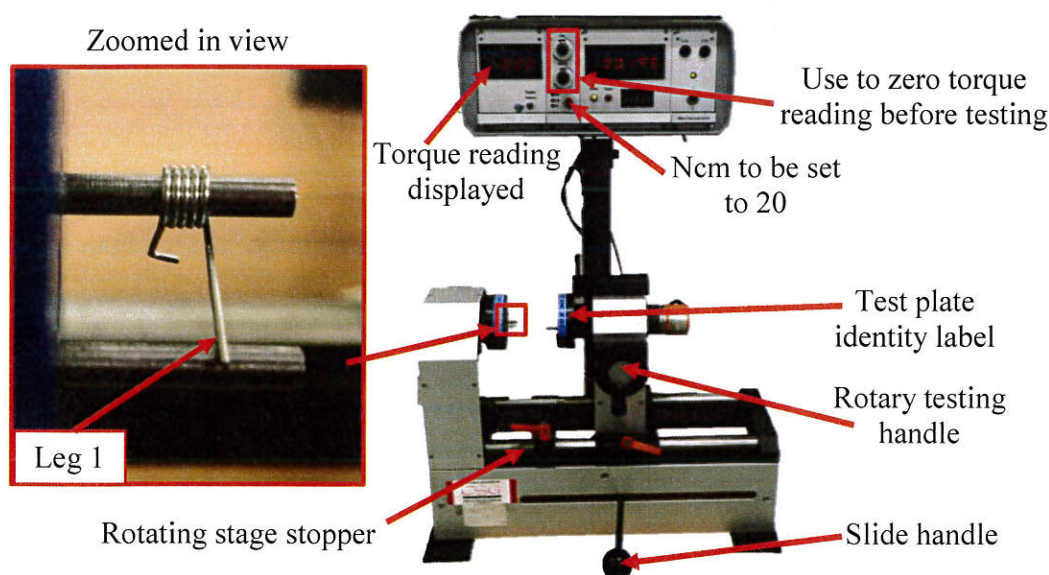
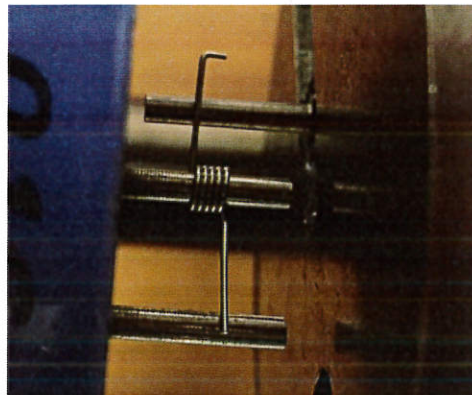

Figure 18: The correct setup and placing of the component on the torque tester.
Figure 19: Component under torque testing.
- 6.2.16. **Set Up Torque Tester.** Ensure that the required test plates, identified by the blue labels as shown in Figure 18: and as defined on the Works Order Instruction are fitted to the torque tester, if they are not, they are to be installed by use of procedure Böhm TG8 and TG9 Torque Tester Setup (Document Number AEU00547). Using Figure 18: for reference, ensure that the rotating stage correctly engages with the component under test without hitting the fixed stage by use of the stopper, then ensure that the Ncm setting is as shown in Figure 18:
- 6.2.17. **Place Component on Torque Tester.** Place the component on the torque test as shown in Figure 18: Ensuring that Leg 1 is resting on the post, as shown in Figure 18: Then zero the torque reading by use of the adjusters highlighted in Figure 18:
- 6.2.18. **Torque.** Close the rotary side by use of the slide handle, turn the rotary testing handle until it reaches the stops to apply the torque to the component, as shown in Figure 19: once the stops have been reached note the torque displayed, enter the result shown on the display identified in Figure 18: manually using the Keyboard.